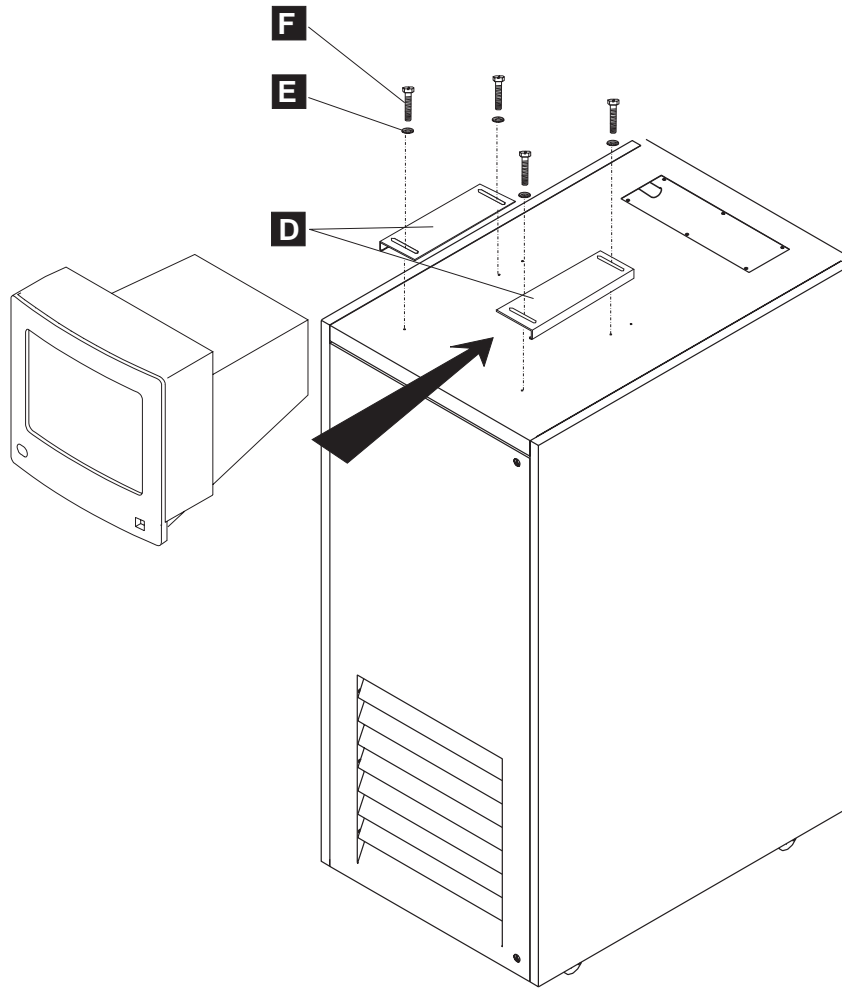

Figure 6-6. Safety Retainers Installation
- a. On the top of the 29U rack, install the safety retainers **D** (PN 02N1503) with screws **F** (PN 1621601) and star washers **E** (PN 1622336) (see Figure 6-6 on page 6-5).